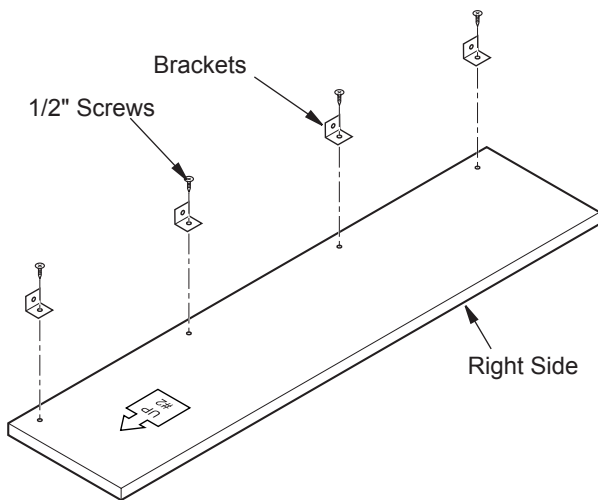
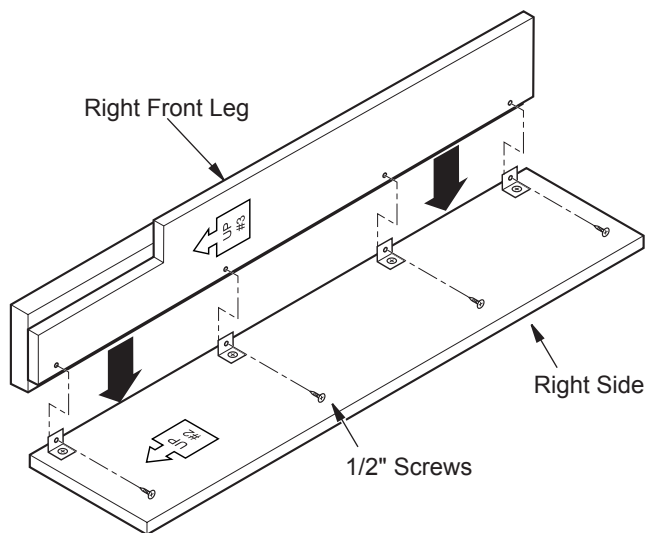

Figure 1 - Attaching Brackets to Side
Figure 2 - Attaching Front Leg
1. Lay right side panel (#2) face down on a soft surface to avoid marking finish. Attach four brackets with 1/2" screws to bottom of right front leg (#3) leaving screws slightly loose. Face brackets out (see Figure 1, page 2). Place right front leg (#3) over right side (#2) as shown in Figure 2, page 2, paying close attention to up arrows on panels. Align threaded holes with brackets on side. Start four 1/2" screws through brackets. Align bottom of side and leg assembly so they are flush with each other. Hold these pieces securely in alignment while tightening (but not over tightening) screws.